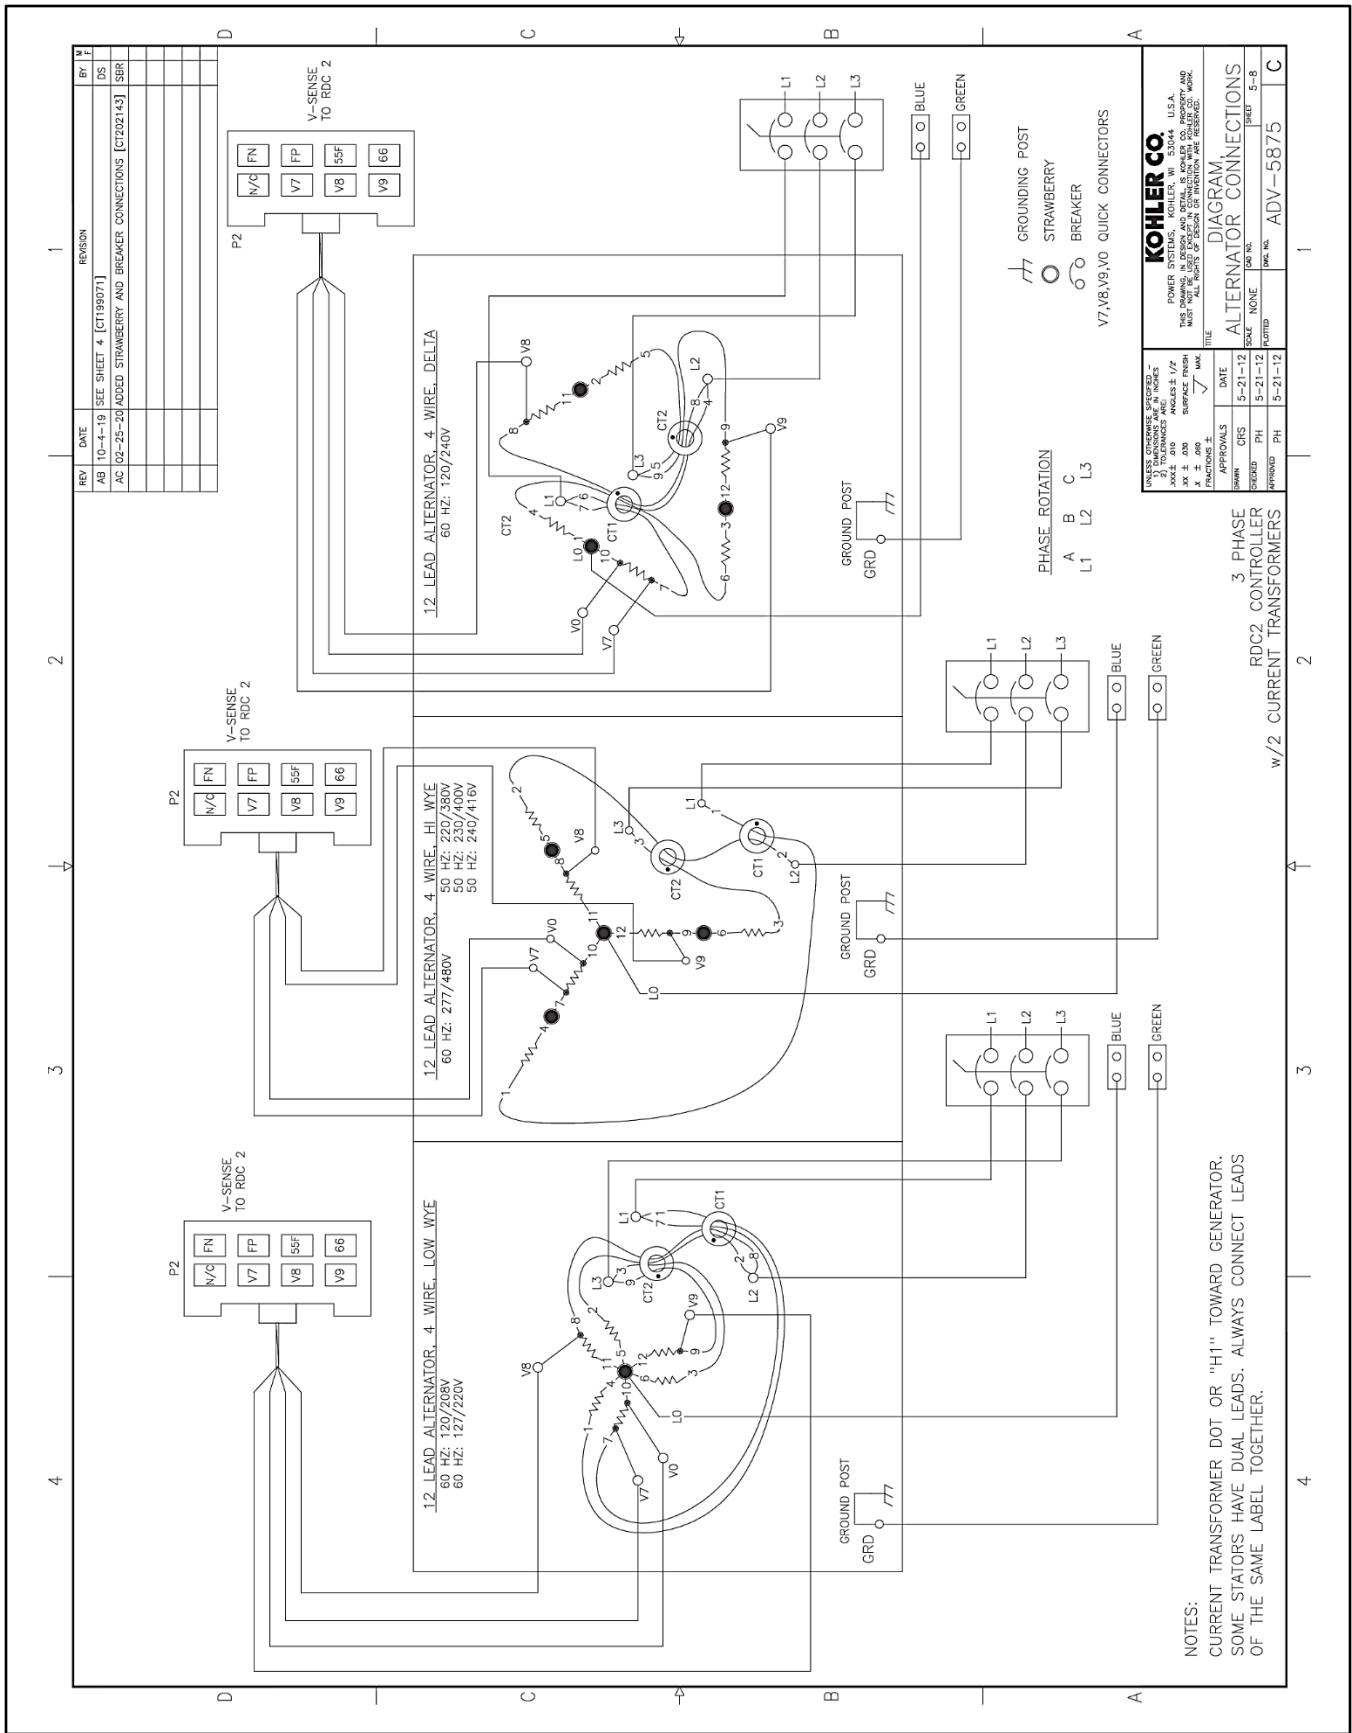
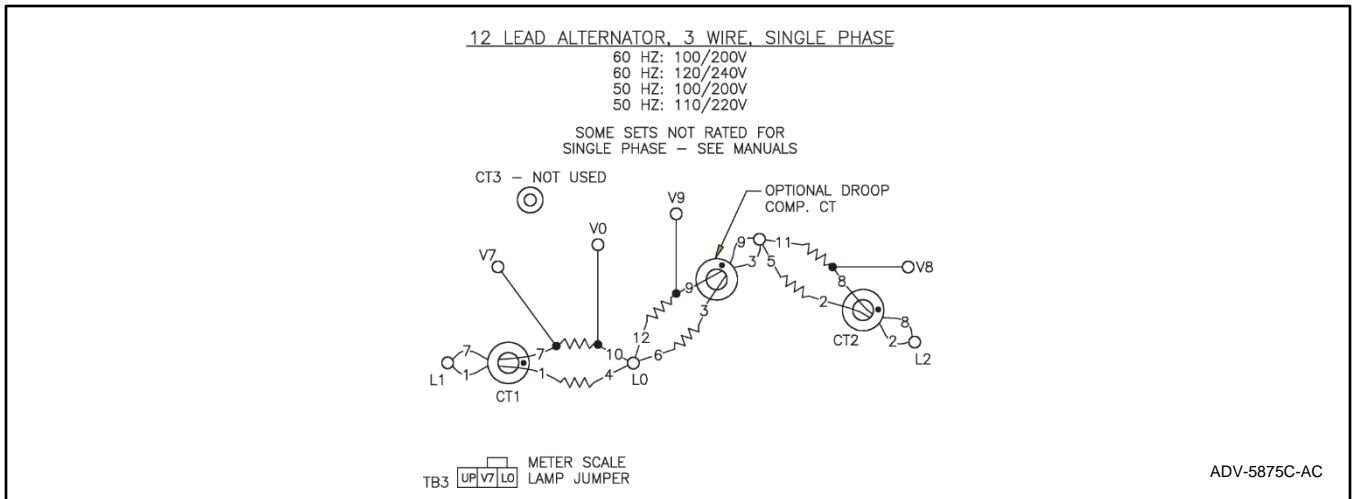

Figure 39 12-Lead Generator Reconnection, 1 of 2
Figure 40 12-Lead Generator Reconnection, 2 of 2
Three-phase, 12-lead generator sets are reconnectable to the voltages and phases shown on the generator set specification sheet. See Figure 39 and Figure 40 for the applicable three-phase configurations and single-phase dogleg configuration. Use the following procedure to reconnect the generator to the desired voltage configuration, change the system voltage setting, and adjust the output voltage.
5. Select desired voltage connection. See Figure 39 and Figure 40. Connect the leads according to the diagram for desired phase and voltage.